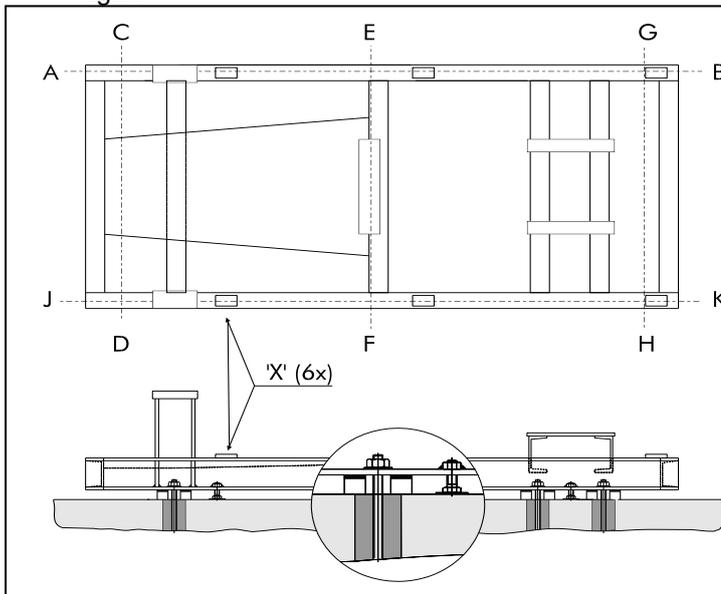

Figure 3: Adjusting foundation frame
The base should contain recesses for the grouting of the foundation bolts. Figure 3 shows a number of variations on the design of the foundation bolts.
- Level the foundation frame in the direction A-B with an accuracy of 0.05 mm/m¹ using the adjusting bolts, see Figure 3. Fill the space between the filler blocks and the foundation frame with thin filler plates.
- Grout the foundation frame, via the fill opening (see Figure 3), **completely**, using non-shrinkable concrete and let this set in accordance with the specifications.